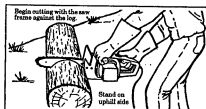

Figure 17
- Begin cutting with the saw frame against the log, Figure 17.
- Plan to stand on the up-hill side when cutting on a slope. Figures 17 & 18.